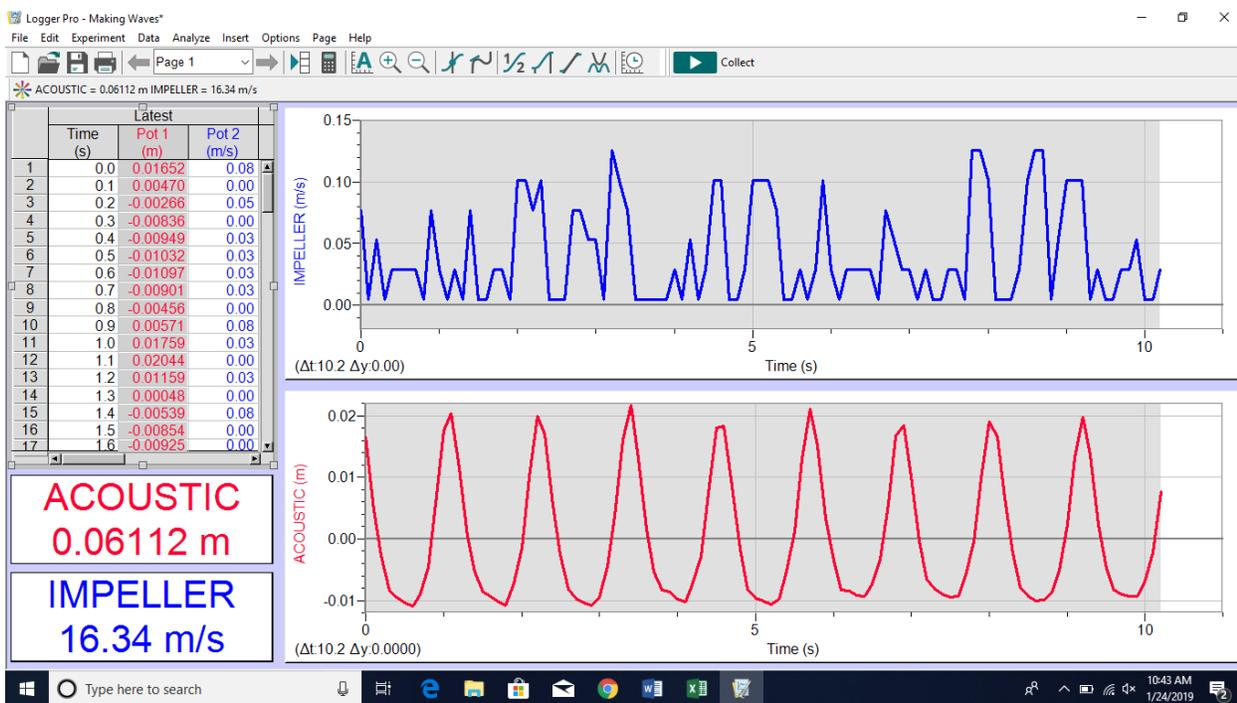

Figure A29. LoggerPro screenshot showing highlighting of sensor data for copying into an Excel spreadsheet.
- To copy and paste data, click on the column heading of the data that is desired. Acoustic data are in red, and the impeller data are in blue. Units are displayed on the column headings to further identify the data. All the data in that column will be highlighted. Right click to copy, and then go to the Making Waves spreadsheet to paste (Figure A29).